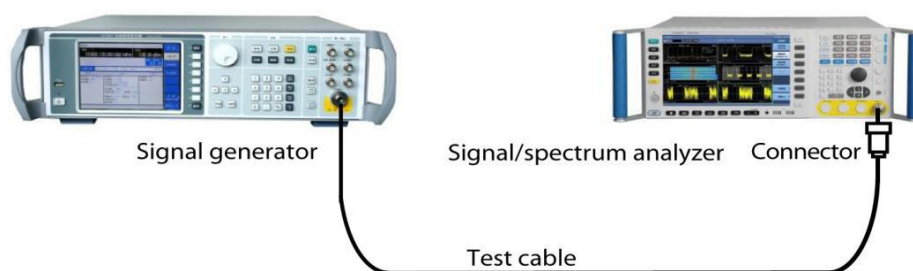

Fig 4.61 Connection Settings of Channel Power Measurement
Step 2: Connect the radio frequency output port of the signal source to that of the analyzer. As shown in Fig. 4.61: